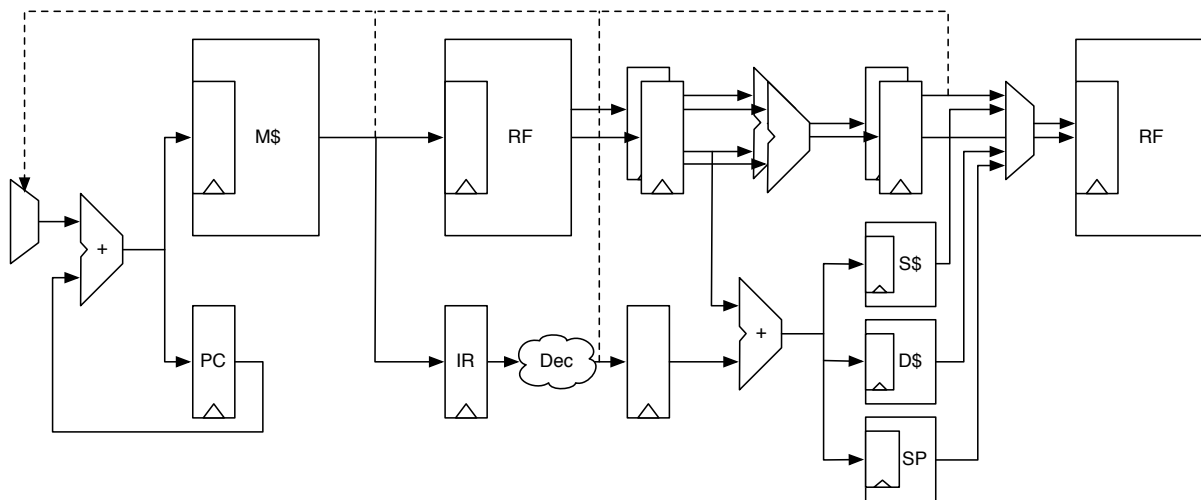

Figure 2.1: Pipeline of Patmos with fetch, decode, execute, memory, and write back stages.
Figure 2.1 shows an overview of Patmos' pipeline. The pipeline consist of 5 stages: (1) instruction fetch (FE), (2) decode and register read (DEC), (3) execute (EX), (4) memory access (MEM), and (5) register write back (WB).
Patmos contains several on-chip memories, as sketched in Figure 2.1. We apply the idea of split caches [12] to simplify and enhance the cache analysis. Instructions are fetched from the instruction cache. Patmos also supports instruction and data scratchpad memories. Stack allocated data is cached in a stack cache the other data in the data cache with LRU replacement. Accesses to data that are hard to analyze can bypass the data cache.